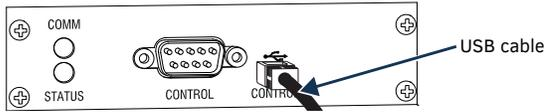

FIG. 4 ATTACH NULL MODEM SERIAL CABLE TO DB-9 SERIAL PORT
- Plug the null modem cable into the serial port on the enclosure (FIG. 4 and 5).